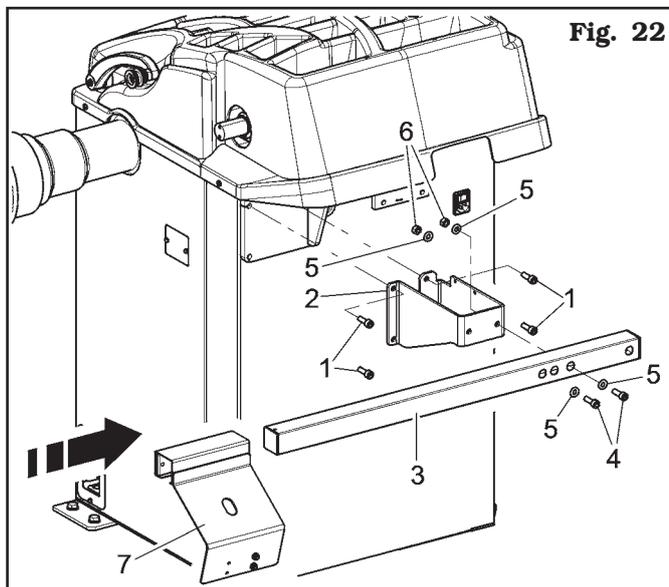

Fig. 22
1. Introduce the 4 screws (**Fig. 22 ref. 1**) to the gauge bracket (**Fig. 22 ref. 2**) and screw them to the special threaded rivets placed on the rear side of the frame. Lock the Run-out ultrasound arm (**Fig. 22 ref. 3**) to the bracket (**Fig. 22 ref. 2**) using the 2 screws (**Fig. 22 ref. 4**) and the washers (**Fig. 22 ref. 5**). Lock the screws (**Fig. 22 ref. 4**) screwing the provided nuts (**Fig. 22 ref. 6**) and washers (**Fig. 22 ref. 5**).
2. Mount the ultrasounds Run-out (**Fig. 22 ref. 7**) as illustrated in Fig. 22.